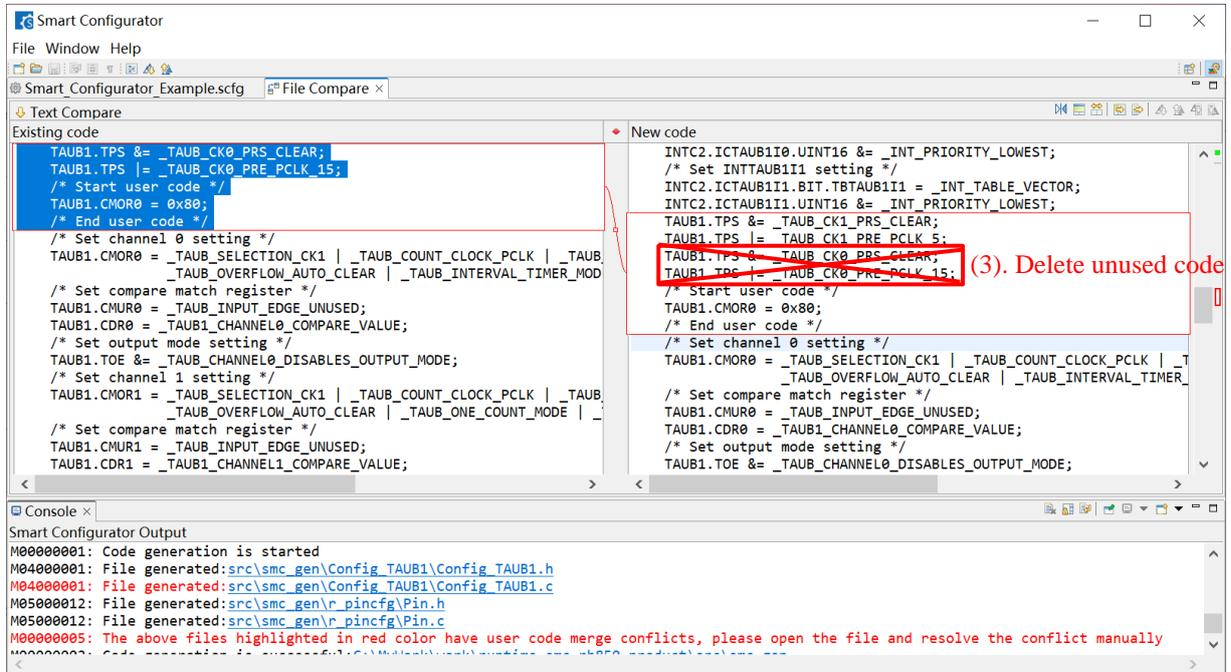

Figure 10-6 Code after applying “Copy Current Change from Left to Right”
- 3) Delete the codes that you do not want to use (Figure 10-6 Code after applying “Copy Current Change from Left to Right”).